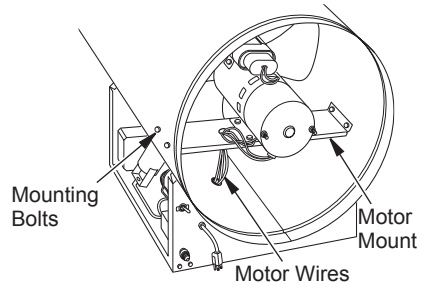

Figure 6 - Location of Fan and Motor
20. Route motor wires through hole in bottom of shell (see Figure 6, page 7).